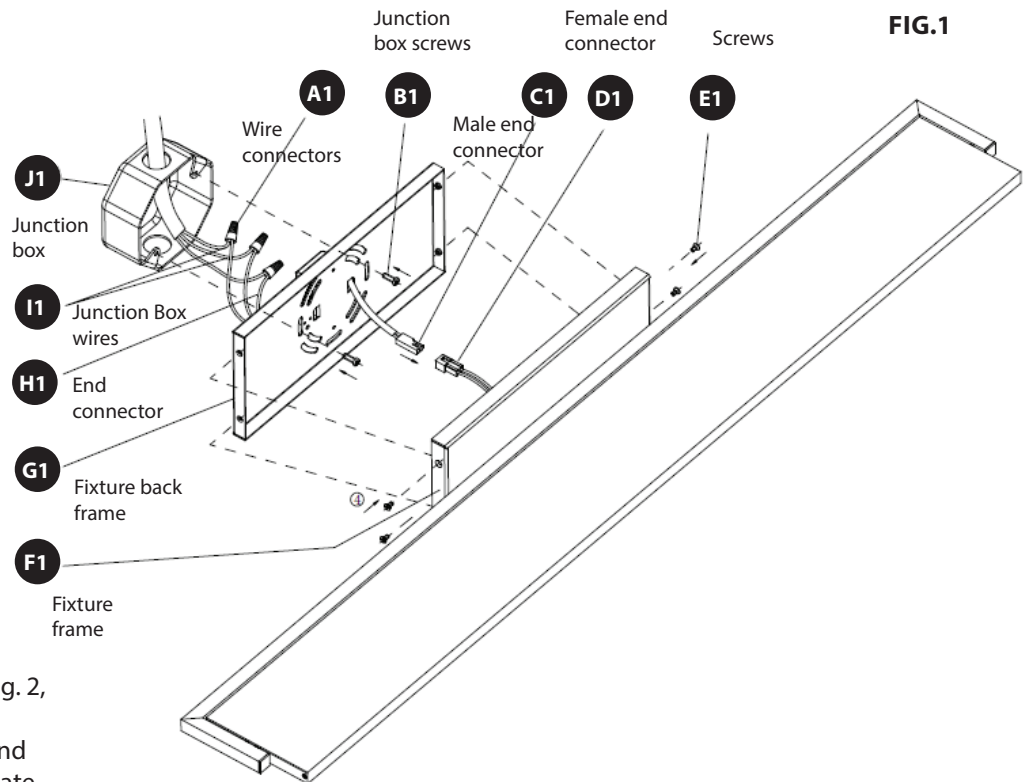

FIG.2
CONNECTING THE WIRES (Fig. 2)
5. Connect the junction box wires (I1) to transformer input wires (H1) as shown in Fig. 2, making sure that all wire connectors (A1) are secured. Fixture and junction box ground wires should be connected to mounting plate using green screw provided. After wires are connected, tuck them carefully inside the junction box